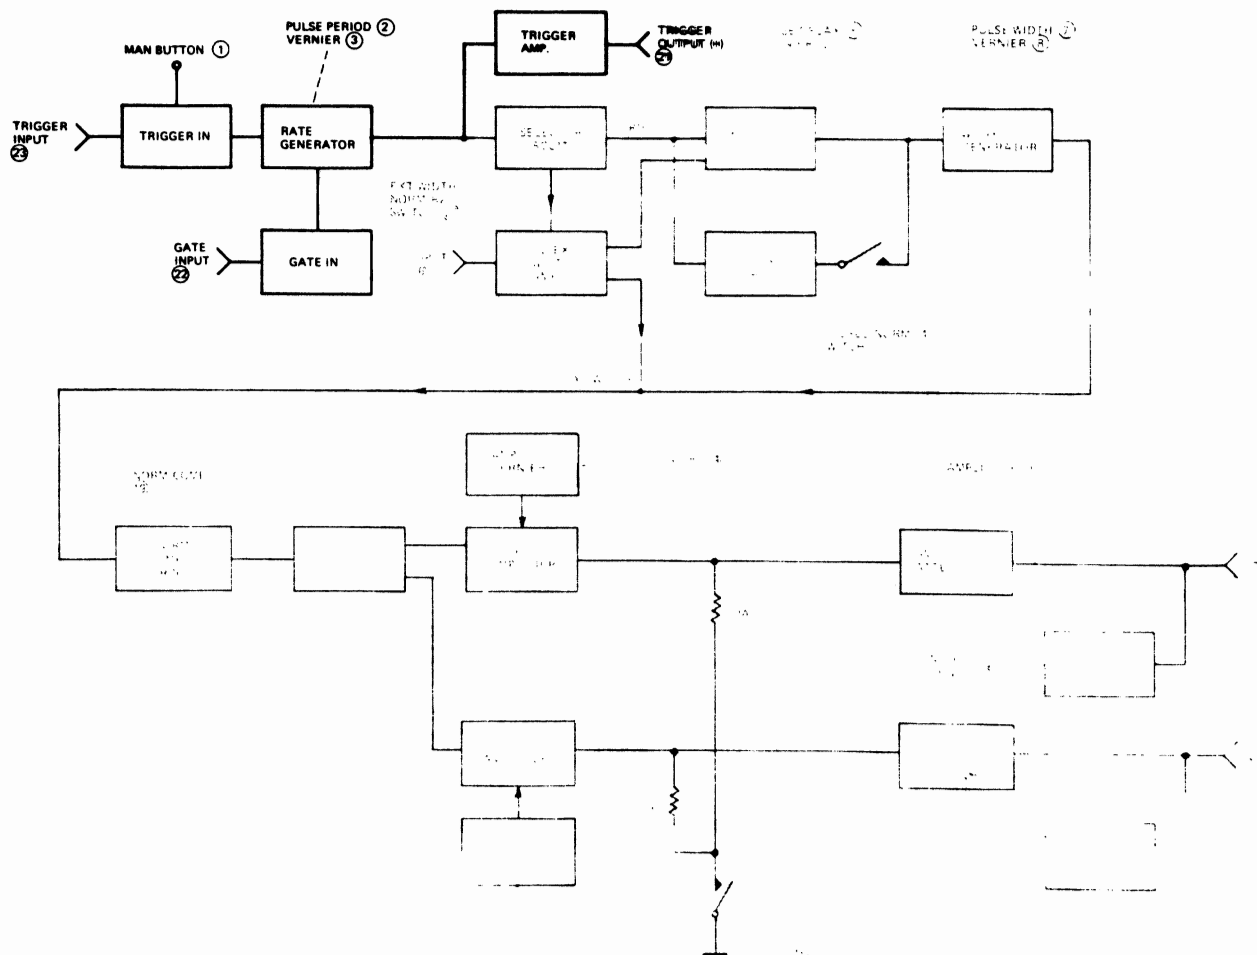

Figure 3-22. Independent clock generator in RZ/EXT WIDTH modes - block diagram
can be triggered internally, externally or manually and can also be gated as in the normal operating mode. If this facility is not required, it can be switched off by setting the PULSE PERIOD control (2) to EXT and disconnecting the TRIGGER INPUT (23). The circuits and controls involved in this facility are shown in Figure 3-22.